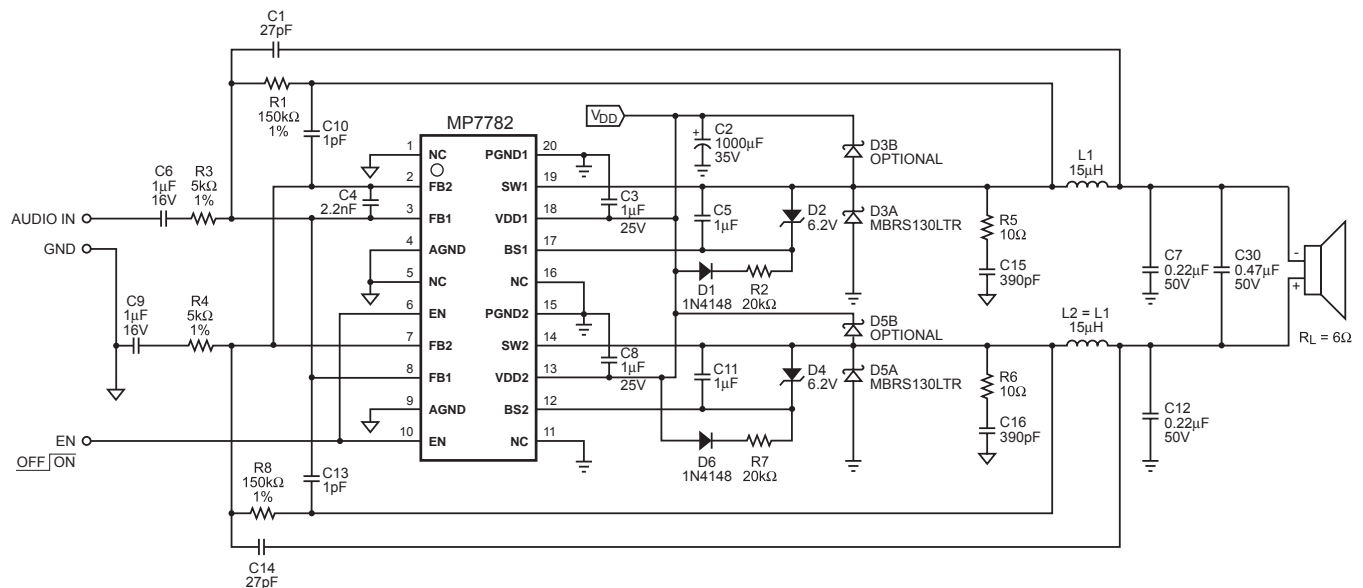

Figure 1 — 50W Class D BTL Amplifier ($V_{DD} = 24V$)
(Circuit of Figure 1, $V_{DD} = 24V$, $V_{EN} = 5V$, $T_A = +25^{\circ}C$, unless otherwise noted.)
Circuit of Figure 1, $V_{DD} = 24V$, $T_A = +25^\circ C$
The MP7782 uses a minimum number of external components to complete a fully bridged Class D audio amplifier. The circuit in Figure 1 shows a typical application. Use the following sections to customize the amplifier for your particular application.
Two identical LC filters are required in the typical application. The inductor-capacitor (LC) filter is a second order filter that converts the pulse train at SW (pins 14, 19) to the output differential signal that drives the speaker. Typical values for the LC filters are shown in Figure 1. The characteristic frequency of the LC filter needs to be high enough to allow high frequency audio to reach the output, yet needs to be low enough to filter out high frequency contents of the pulses from SW. The characteristic frequency of the LC filter is: